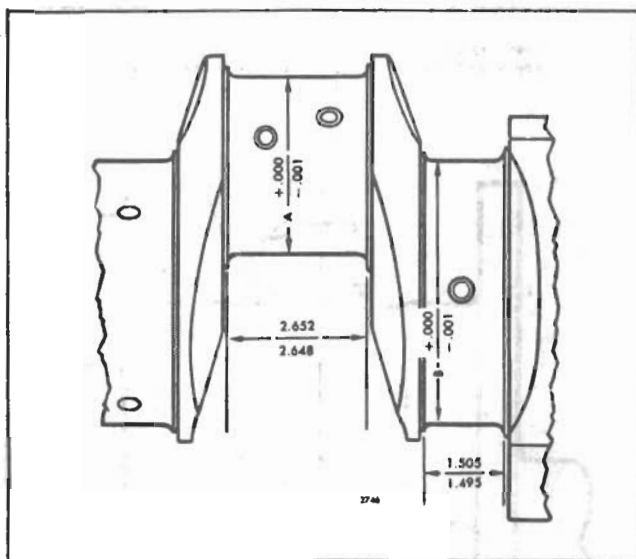

Fig. 6 - Dimensions of Crankshaft Journals
Measure all of the main and connecting rod bearing journals (Fig. 6). Measure the journals at several places on the circumference so that taper, out-of-round and bearing clearances can be determined. If the crankshaft is worn so that the maximum connecting rod or main bearing journal-to-bearing shell clearance (with new shells) exceeds .0040" or .0050" respectively, the crankshaft must be reground. Measurements of the crankshaft should be accurate to the nearest .0002". Also, if the journal taper of a used crankshaft exceeds .0015" or the out-of-round is greater than .001", the crankshaft must be reground.
1. Compare the crankshaft journal measurements taken during inspection with the dimensions in Table 2 and Fig. 6 and determine the size to which the journals are to be reground.